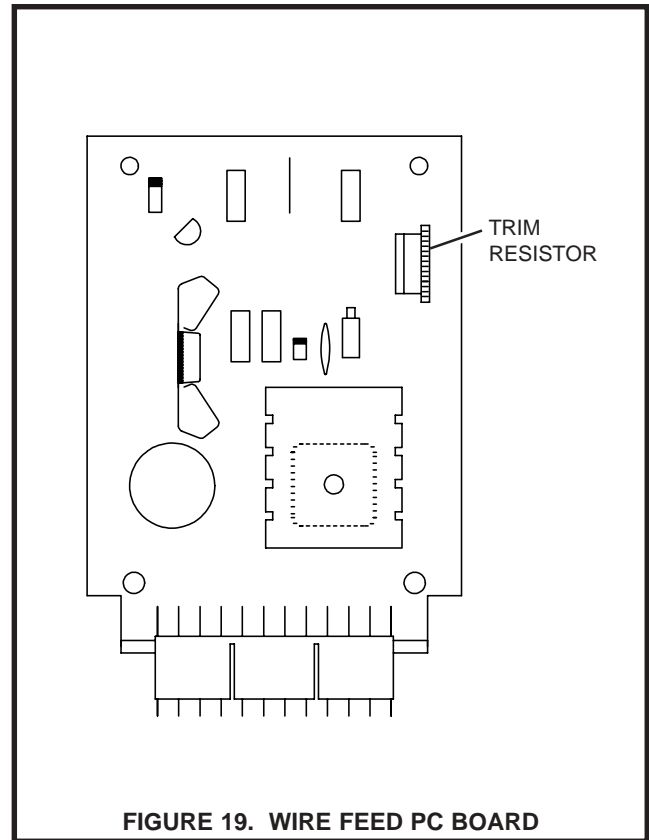

FIGURE 19. WIRE FEED PC BOARD
3. Referring to Figure 19, locate the trim resistor, this is located in the upper right hand corner of the wire feed PC board.